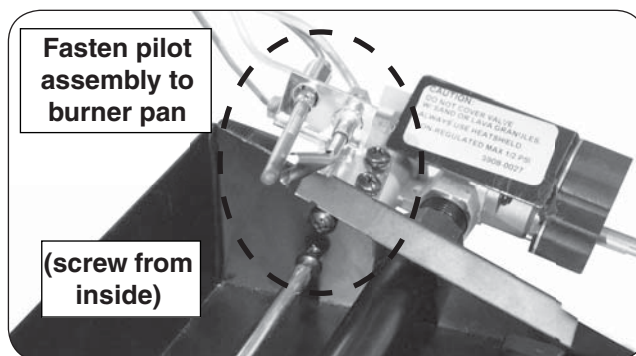
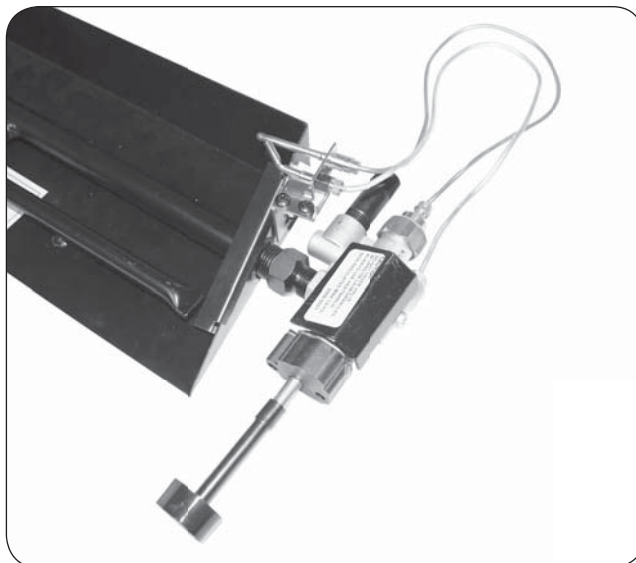

Fig. 8-2 Install pilot assembly
Fig. 8-3 Proper tube & lead orientation
1. The pilot assembly comes with two Phillips screws installed on the long side of the pilot bracket. Remove the screws and use them to fasten the pilot assembly to the burner pan using the pre-drilled holes in the pan (see Fig. 8-2 and Fig. 8-3).
2. The valve is shipped with the pilot supply tube and thermocouple lead bent in an ideal manner to prevent damage / unsafe operation, and to allow for proper heat shield placement. Maintain this orientation at all times (reference Fig. 8-3).